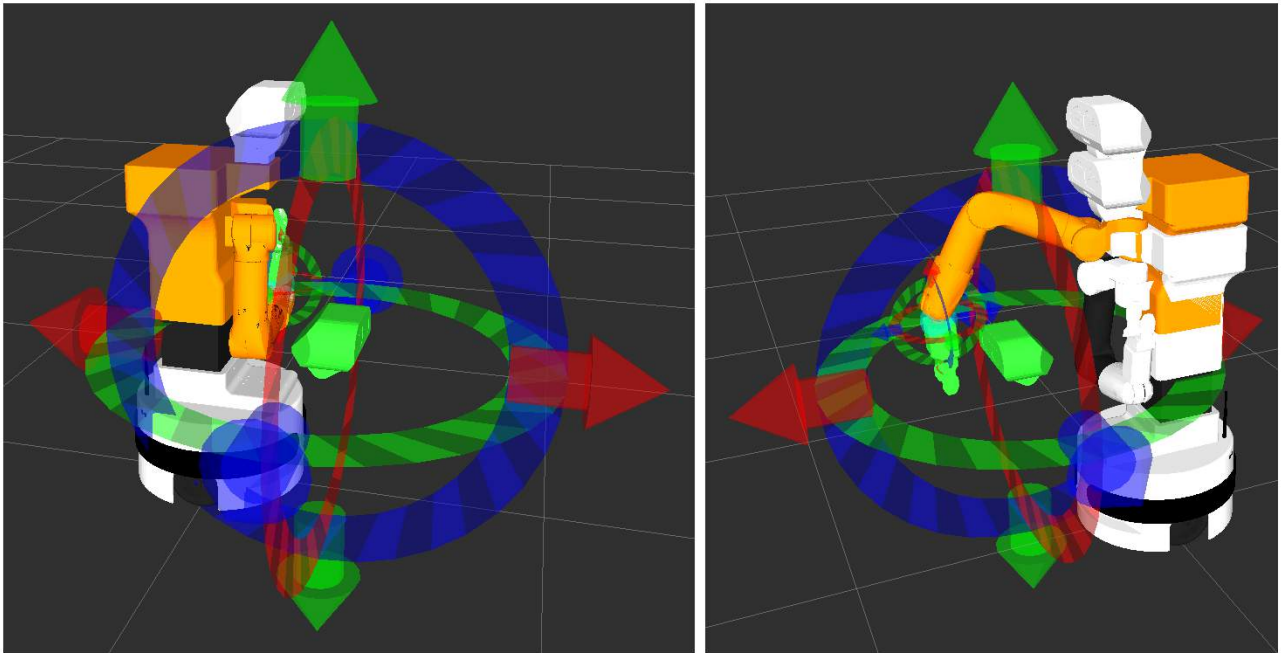

Figure 94: Example with an object in the scene. Initial pose (left) and goal pose (right).
3. Move the end-effector using the “*flying end-effector*” to a goal position like the one shown at the right part of figure 94. Make sure that no body part is in red, which would mean that *Movel!* detected a collision in the goal position. Goals which result in a collision state will not be planned at all by *Movel!*.